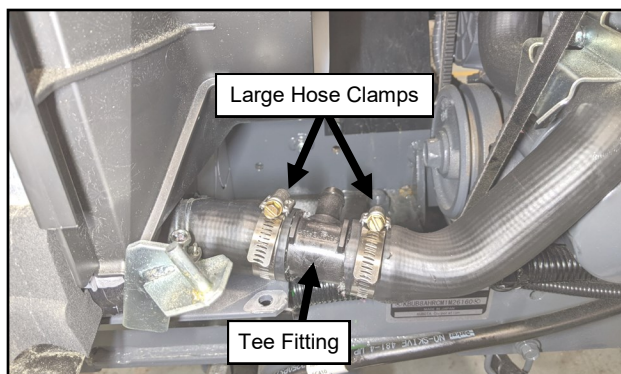

Fig. 15.6 (Install Tee Fitting)
- 15.6 Install the supplied tee fitting between the sections of lower radiator hose using the two large hose clamps, leaving the clamp loose for now. Orient the tee so that it points across the engine bay. See Figure 15.6.
- 15.7 Inspect the lower radiator hose to confirm it is not pushed up against any sharp edges and further trim to length if necessary. Orient the Tee fitting per figure 15.6 and tighten the clamps.